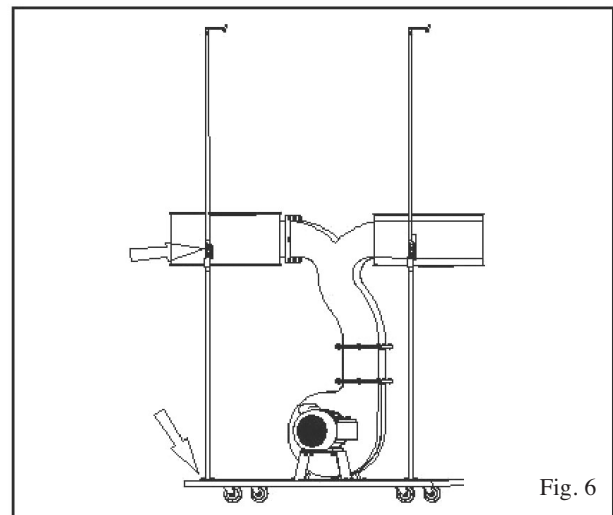

Fig. 6
Install the two collector supports (F) and two upper bag support (E) as shown in Fig 6.